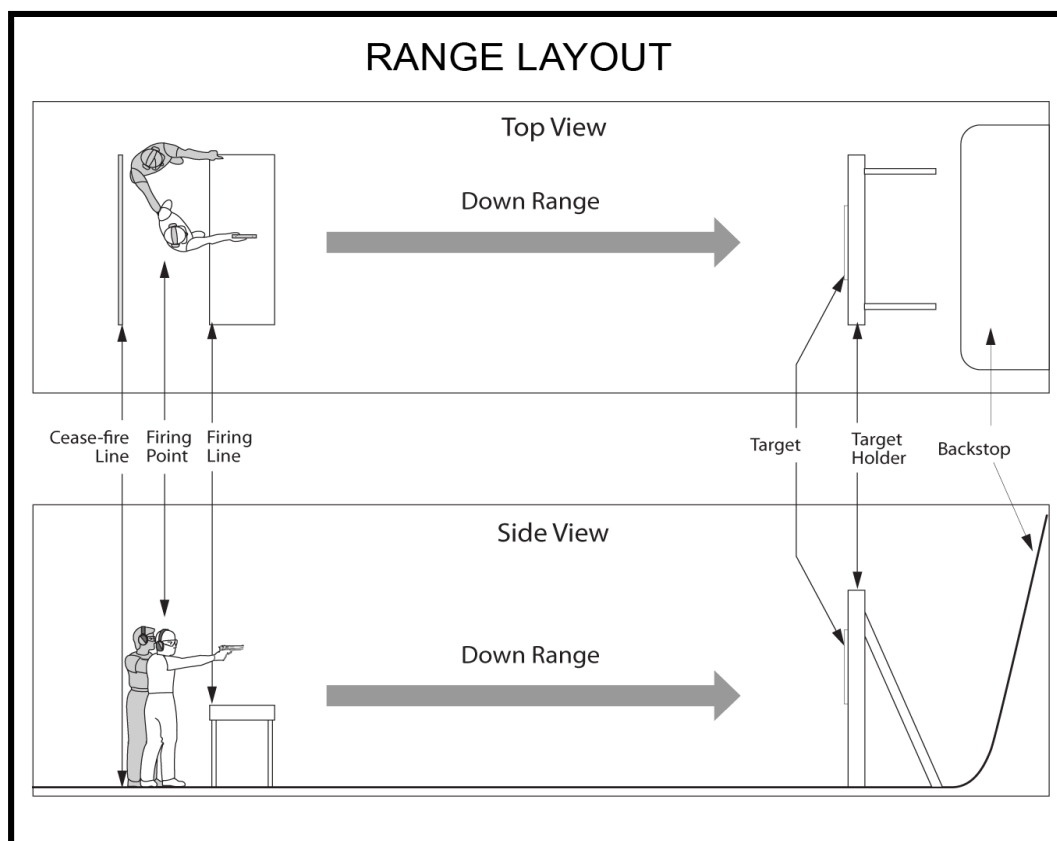

Figure 129. Range Layout with Direct Supervision
- During a cease-fire, no one will handle firearms or ammunition or return to the firing line. At this point, wait for further range commands before any further activity. Persons not engaged in changing targets down range should stand well behind the cease-fire line (Figure 129).